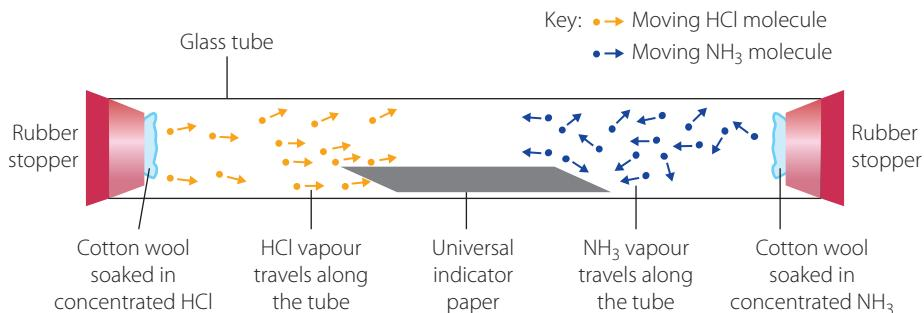

FIGURE 5.11 The reaction between ammonia gas and hydrogen chloride gas
- 1 Use the clamps and retort stand to ensure that the glass is secure and horizontal in a functioning fume cupboard. Ensure that the bottles are also in the fume cupboard. If universal indicator paper is being used, place it in the glass tube (Figure 5.11).